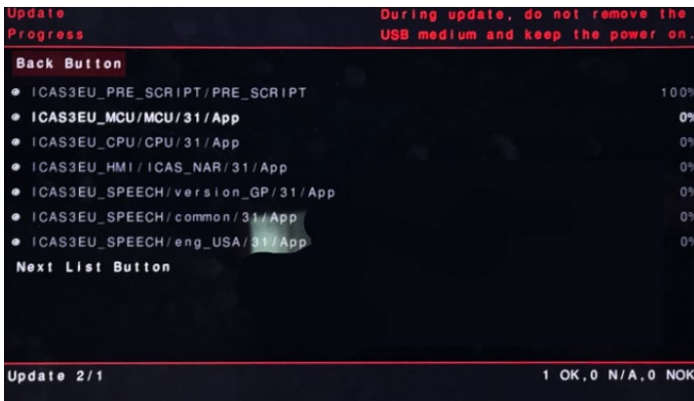

Figure 10: Update progress
- The individual applications are first copied, then updated and verified. The progress is shown on the right next to each application in percent (see figure 10).